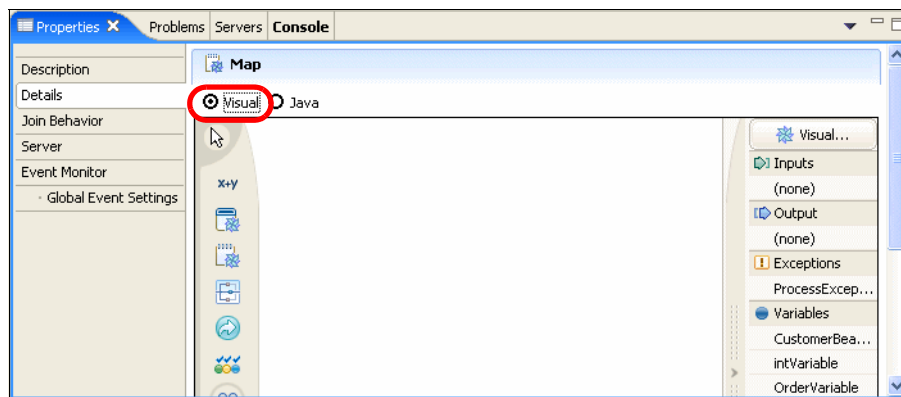

Figure 16-17 Visual Snippet: Changing the implementation to visual
- ▶ In the Properties view, select *Details*, then select *Visual* and click *Yes* when prompted (Figure 16-17).